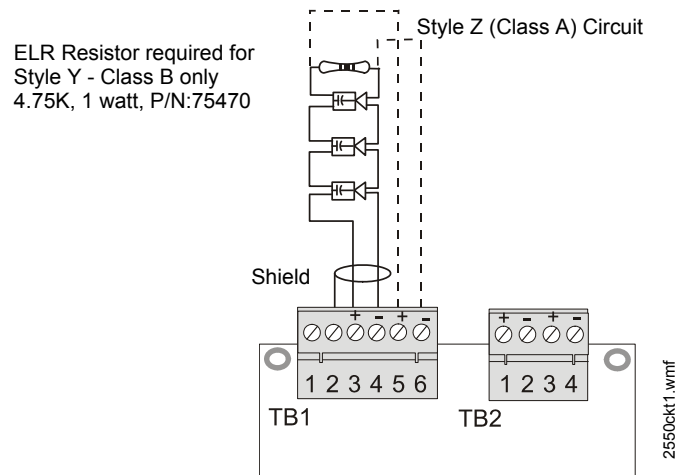

Figure 3.12 Speaker Circuit Connections
- Connect field wiring to newly installed amplifier. Refer to Figure 3.12 on page 52 for illustration of speaker connections if amplifier is being used to expand system power to 50 watts (i.e. providing dual 25 watt speaker circuits). Figure 5.2 on page 82 for illustration of connections if amplifier is being used as a backup.